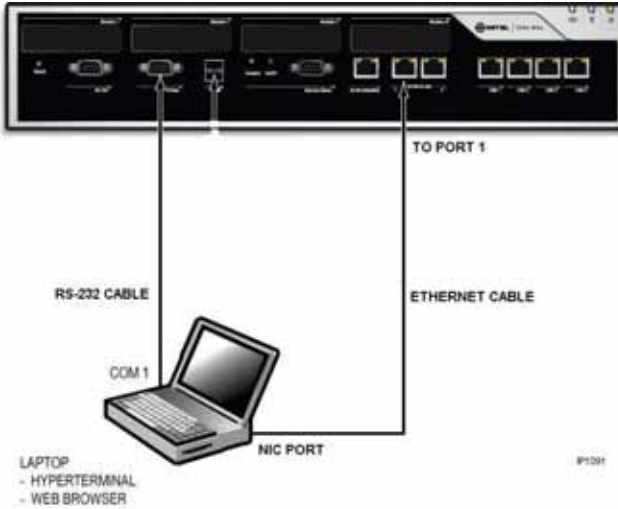

Figure 1: Laptop Connections
2. Connect the RS-232 serial cable between the COM 1 port on your laptop to the server printer port (see Figure 1).